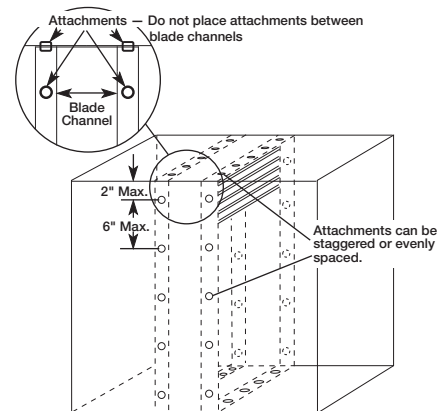

Figure 6 — Field Attachment of Fire Dampers to Sleeves
a. Attach all (4) sides of the damper frame to sleeve with (1) row of attachments on each side of the blade channel. Use a minimum of (4) attachments per side ([2] on each side of blade channel). Refer to Figure 6.